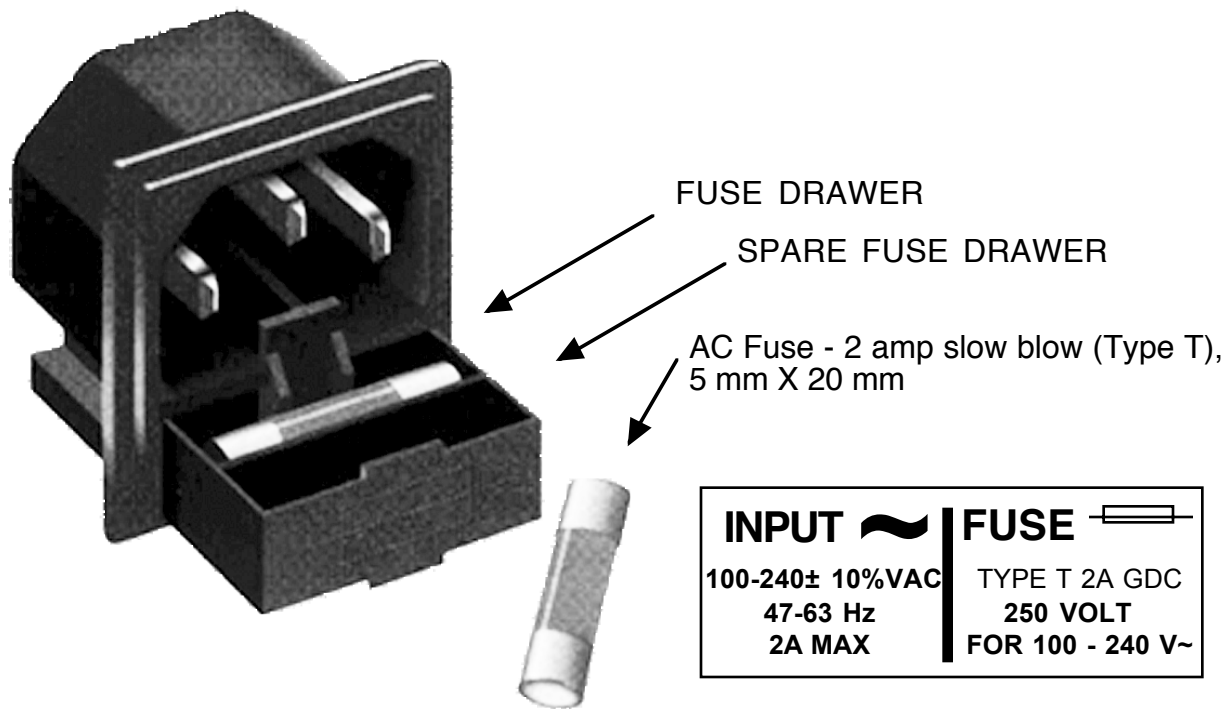

FIGURE 2.6 Fuse and Spare Fuse Locations
4. AC Fuse - The fuse is a 5mm, 2 amp fast blo and is inserted in the far slot in the drawer below the AC input as shown in Figure 2.6. There is a spare fuse in the rear slot. If a fuse continues to open, the power supply is most likely defective. Note that the power supply module within the chassis also has a fuse but failure of this fuse indicates the power supply may be defective.